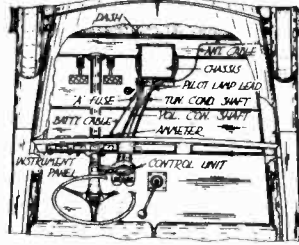
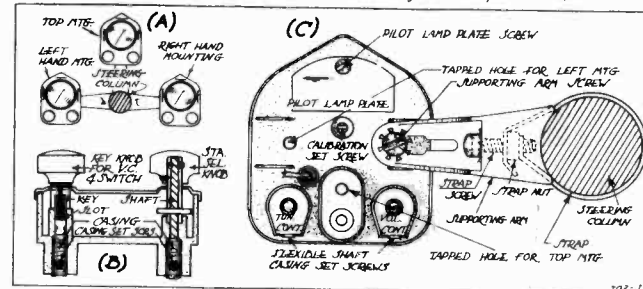

Fig. 1—General Installation—Top View
Fig. 5—Details of Control Unit Mounting
To calibrate the receiver, tune in a station of known frequency. At the back of the control unit is the calibration screw—see Fig. 5. Insert a screw driver and turn this screw until the pointer on the dial scale is at the frequency of the station being received.
Do not take the chassis out of the box. First set the signal generator at approximately 262.5 K. C. Connect the antenna lead from the generator to the control grid of the I. F. 78 tube, through a .05 mfd. condenser. The ground lead of the generator goes to the ground of the receiver. Turn the rotor plates of the tuning condenser completely out and keep the signal weak enough to prevent A. V. C. action. Note from Fig. 1 that the second I. F. transformer is self tuned and cannot be adjusted. Adjust the frequency of the signal generator until the output meter shows maximum output. The intermediate frequency setting of the generator is then correct, although it may be a very small percentage higher or lower than 262.5 K. C.
The chassis is mounted in back of the dash as shown in Figs. 1 and 2. The first step is to inspect the dash to determine at which point there is space available. Lift the chassis box up and temporarily hold it in the proposed position. In Figs. 1 and 2 is shown the position at which the chassis is generally mounted. However, there are many other possible locations, depending on the considerations as mentioned below and the space available.
The control unit is mounted on the steering column under the steering wheel as shown in Figs. 1 and 2. It is generally mounted in the right hand position as shown in Figs. 1 and 2. It may also be mounted in the left hand or top position at the preference of the customer, see Fig. 5 (A).
For right hand mounting the supporting arm is screwed to the back of the control unit as shown in Fig. 5 (C). For left hand and top mountings use the correct tapped hole as indicated in the same illustration.
To attach the control unit, first remove the supporting arm by taking out the supporting arm screw—see Fig. 5 (C). Now note that there are several holes in the strap. These are for different sizes of steering columns. Wrap the strap around the column and put the strap screw through the strap nut as shown in Fig. 5 (C). Do not tighten up the screw until the flexible shafts are attached.
If the shafts are not already secured to the control unit proceed as follows: First loosen the set screw in the volume control shaft housing at the back of the control unit. The volume control shaft may be identified by a brass fitting at both ends. The longer of these two fittings has a key slot and is inserted into the control unit as shown in Fig. 5 (B). Insert the shaft far enough so that the key knob engages and may be inserted all the way. The